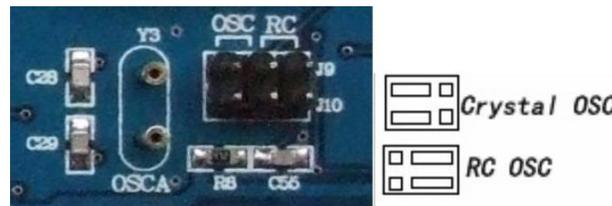

Figure 7: DIP40/28/PIC16F57 clock selection
4. DIP40/28/PIC16F57 clock selection. As shown in Figure 7: